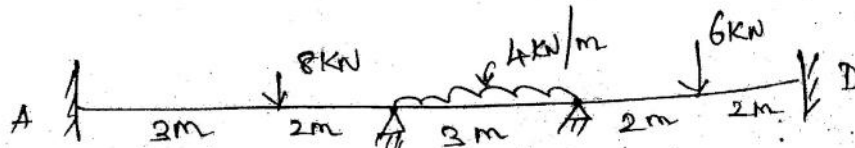

Figure-1
1. Analyse the continuous beam shown in figure-1 by slope deflection method.  $EI = \text{Constant}$ .